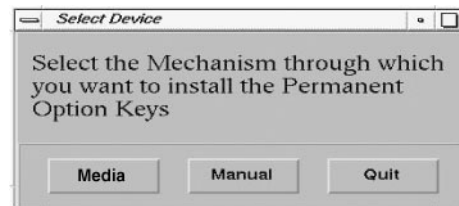

Figure 1-11 Select Device Screen
- 4.) Click on the MEDIA button (Figure 1-11) and insert the Options Key medium into the SCSI Tower's DVD drive.